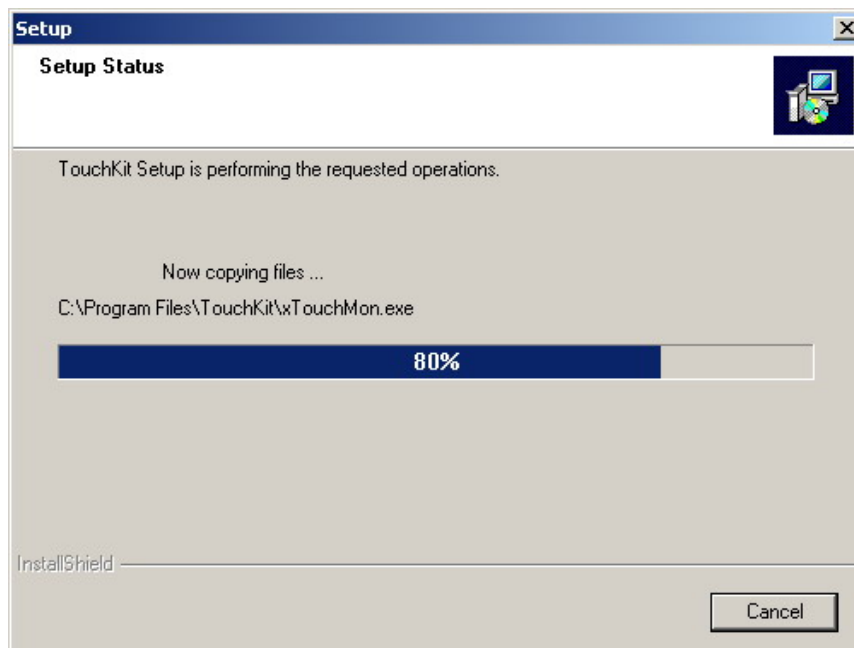

Figure D-9: Installing
Step 12: The program then starts installing (**Figure D-9**).